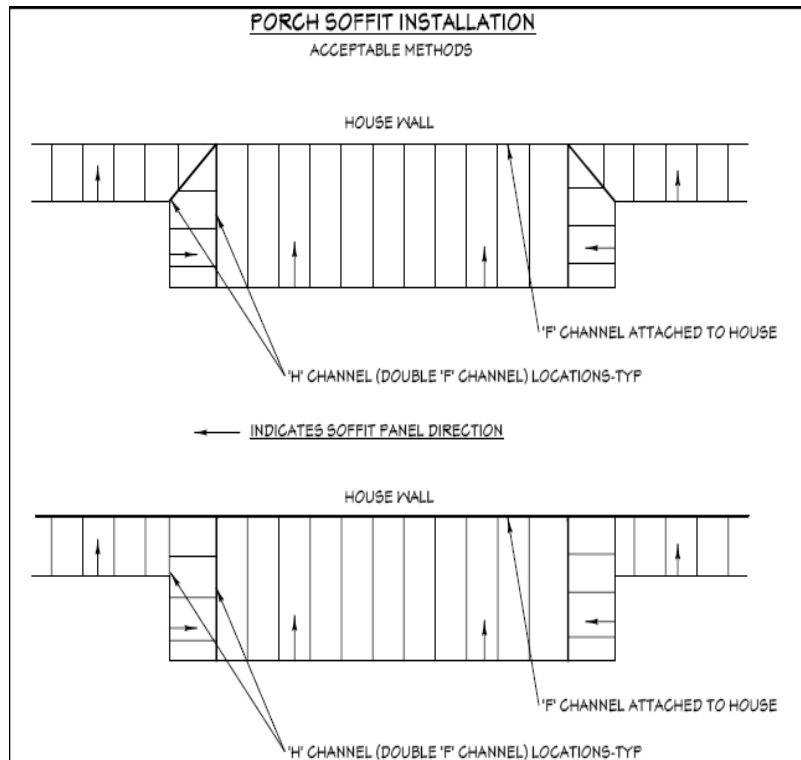

Figure 11-12. Porch Soffit.
4. Install the porch ceiling soffit using one of the two patterns shown in Figure 11-12. While both are acceptable installation methods, the second pattern is easier to install. After installation, mark the location of porch ceiling lights on the soffit panels using painter's tape or marker.